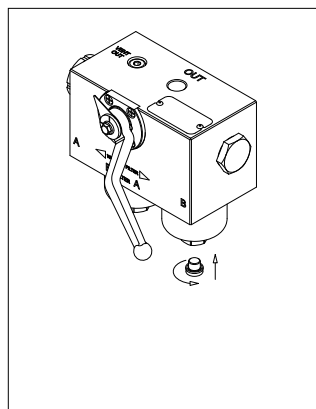

fig. 7
- (Fig. 7) Screw the drain plug in referring to the tightening torque table in paragraph 3